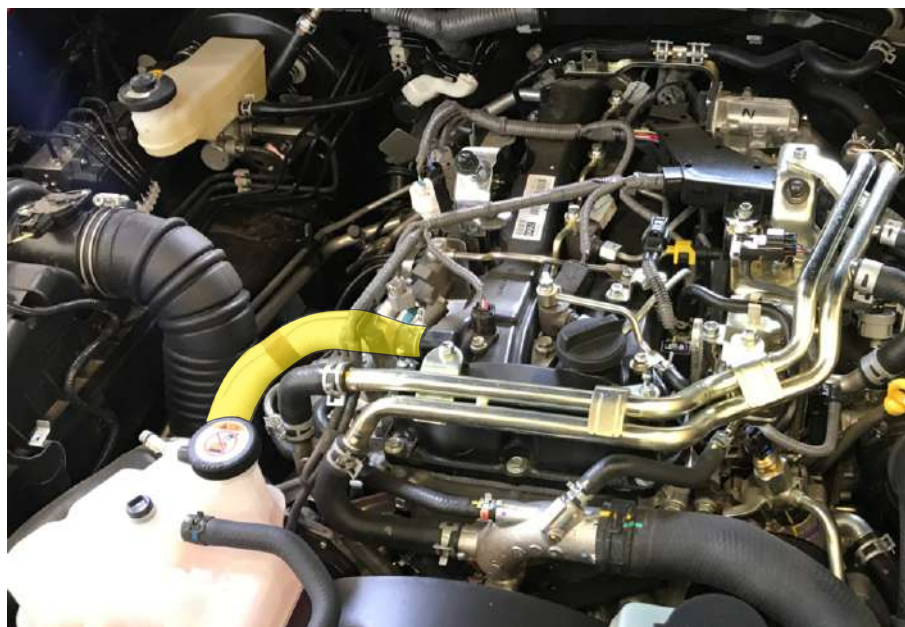

FIG. 3 FACTORY PCV HOSE POSITION AT ENGINE BAY
3. Apply the supplied thread sealant to the thread of the blanking plugs and the quick connectors. Install them as per Fig. 3, ensuring they are tight.
2. Remove the engine cover. Locate the engine PCV valve outlet port at the front drivers side of the engine (see Fig. 3). Disconnect the factory PCV hose (coloured yellow in Fig. 3 & 4) from the PCV valve outlet port but leave the other end attached to the air intake.